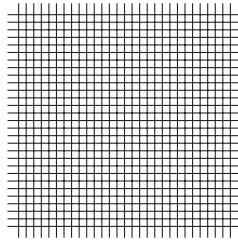

Fig. 2.1
- 2 A fine wire mesh has individual wires that are spaced very close together. See Fig. 2.1.